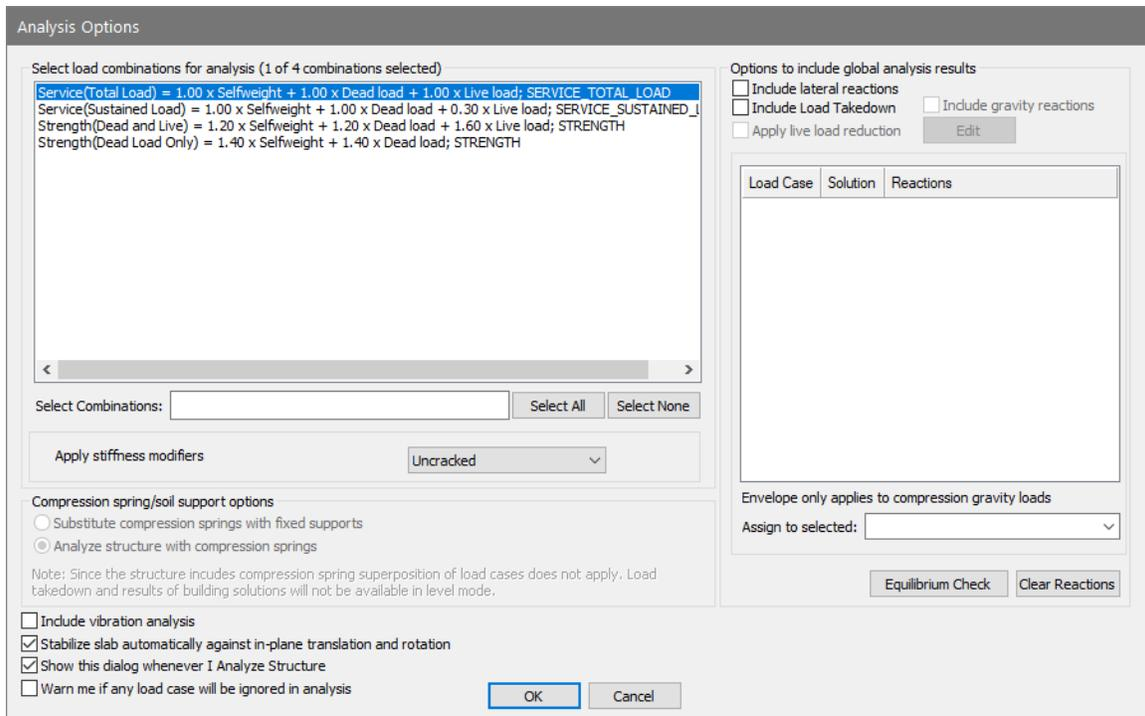

Figure 3-5
- Other options in this dialog window will be left with their default values. Before pressing OK to analyze make sure your screen matches the screen shown in **FIGURE 3-5**. If everything matches click **OK** to analyze the structure.